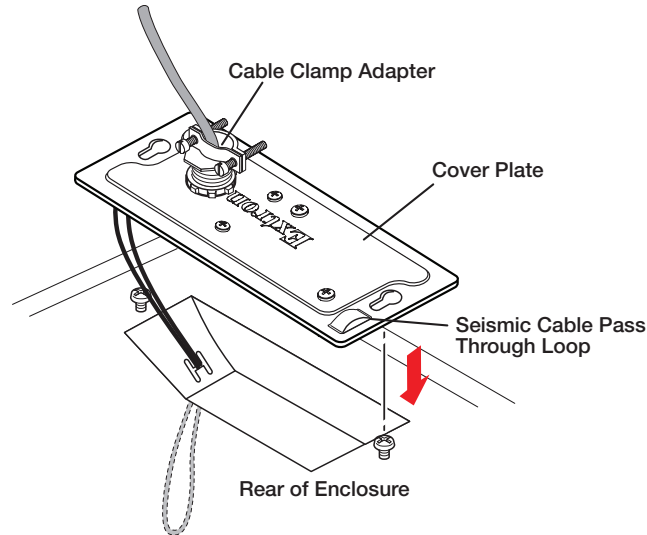

Figure 7. Routing the Cables Without a Conduit
- b. Insert the wires through the clamp and cover plate, as shown in figure 7.